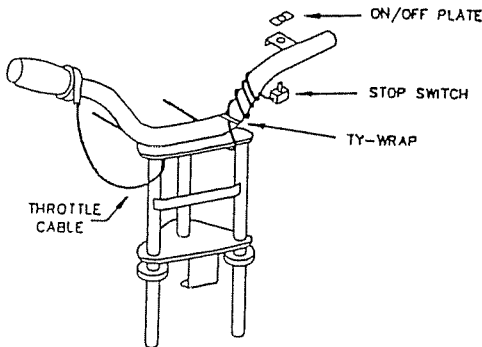

Figure 2: Routing Diagram
2. Separate the Throttle Cable and Stop Switch Wire. Lay the Stop Switch to the Left side of the Frame. Rout the Throttle Cable (REF 48), as shown in Figure 2, along the Top, Right side of the Frame, under the Top Crown Plate, and between the Pivot Tube and Right Fork Tube.
the Twist Grip to the upper Frame tube, see Figure 2. Tighten the two Screws in the Twist Grip securely.
1. Rout the Stop Switch Wire (REF 14), as shown in Figure 2, along the Top, Left side of the Frame, under the Top Crown Plate, and between the Pivot Tube and Left Fork Tube. Wrap the Wire around the Left Handlebar three times. Remove the Nut and On/Off Plate from the Stop Switch. Pass the Stop Switch up through the mounting hole on the Handlebar. Replace the On/Off Plate and the Nut. Work any slack in the Stop Switch Wire towards the Pivot Tube and apply one Ty-Wrap (REF 77) as shown in Figure 2. Securely tighten the Nut.